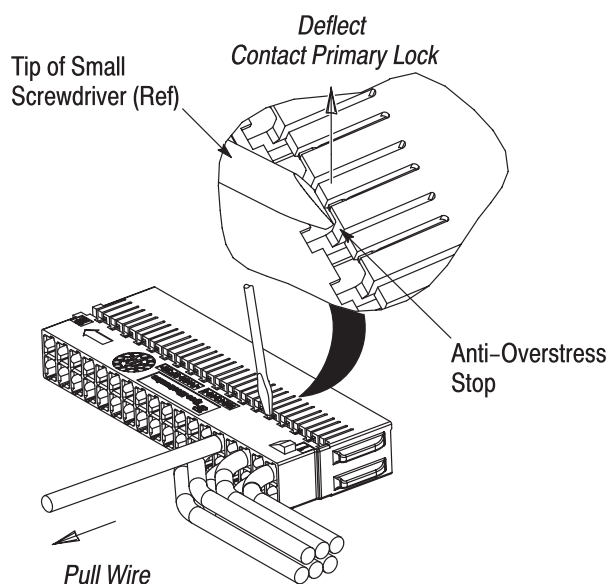

Figure 11
1. Using a small screwdriver having a blade between 1.00 and 1.75 mm wide, deflect the contact primary lock (of the receptacle carrier) of the contact to be removed until it touches the anti-overstress stop. DO NOT deflect the lock beyond this point. See Figure 11.